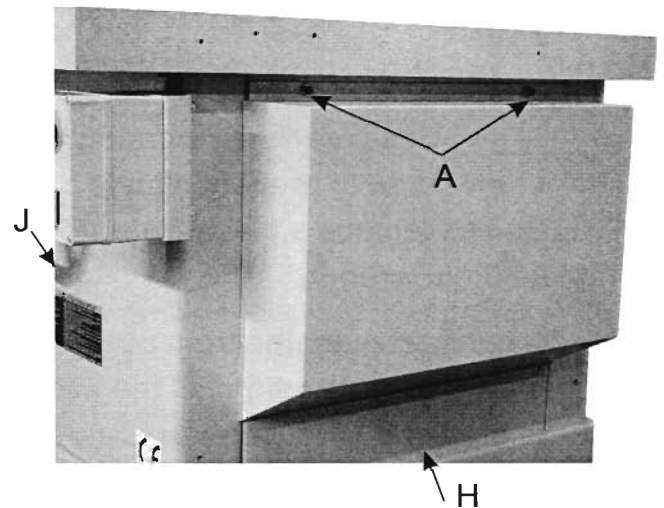

Figure 2
- 2. Closing the motor cover and fasten cover two screw A (Figure 2).